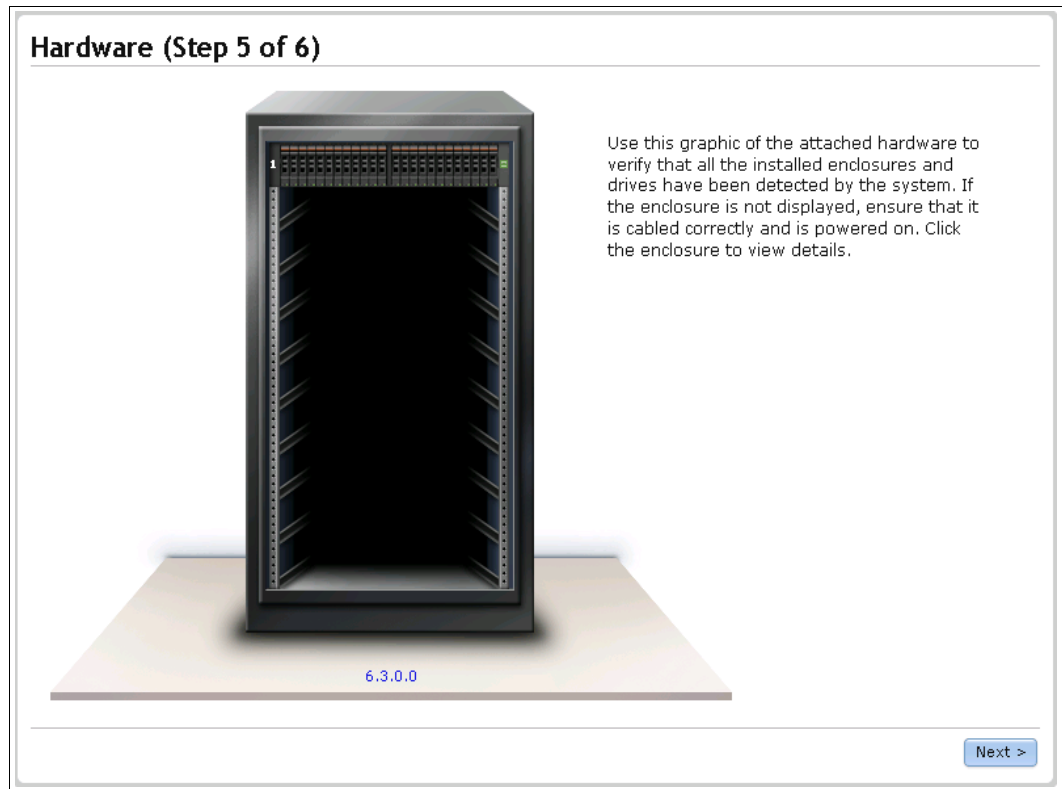

Figure 2-23 Setup wizard - Verify the detected hardware
7. The configuration wizard continues with the hardware configuration. Verify the hardware (Figure 2-23).